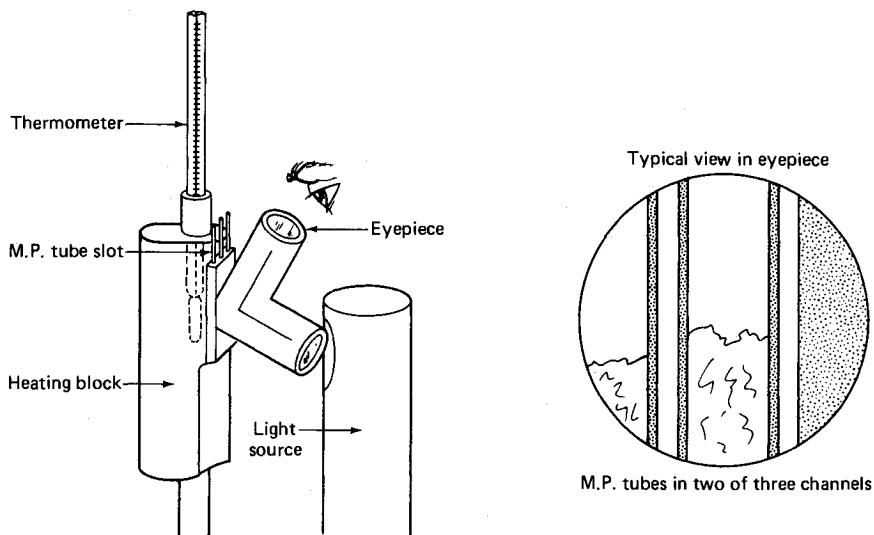

Fig. 34 Closeup of the viewing system.
6. **Eyepiece.** Magnifies the sample (Fig. 34).
2. Place loaded M.P. tube in one of the three channels in the opening at the top of the unit (Fig. 34).